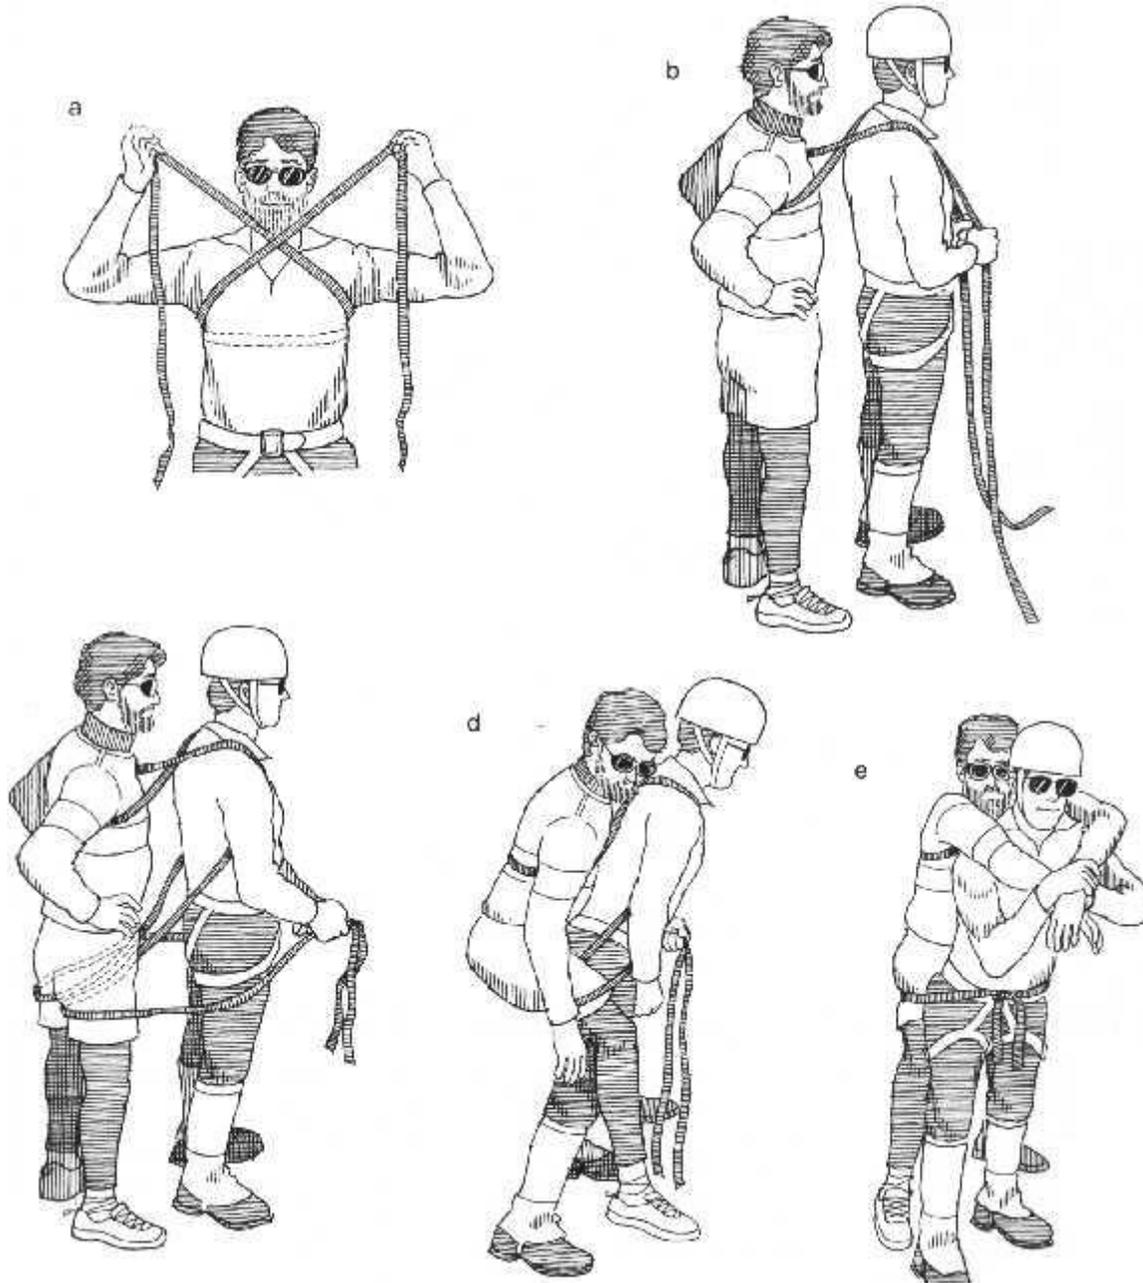

Figure 8 Subject Packaging
- About 20 foot of webbing figure 8 (2-3 doubles tied together)
7	Attach subject to rescuer (see figure 8 on the next page)